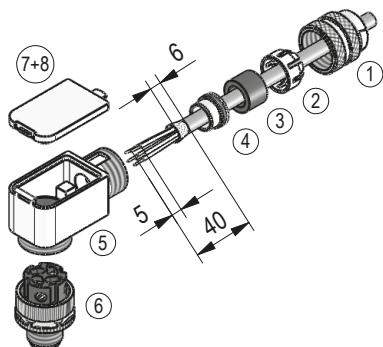
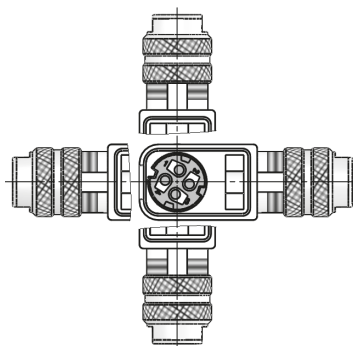

Fig. 10: Right angle mating connector M12
Fig. 11: Angled positions
- Accessory SIKO art. no. "87600" M12 D coded (plug pin 4 pole Ethernet Port 1 (IN) + Port 2 (OUT)) (Fig. 10, Fig. 11).
Mounting (Fig. 10)
Changing the angle position (Fig. 11)